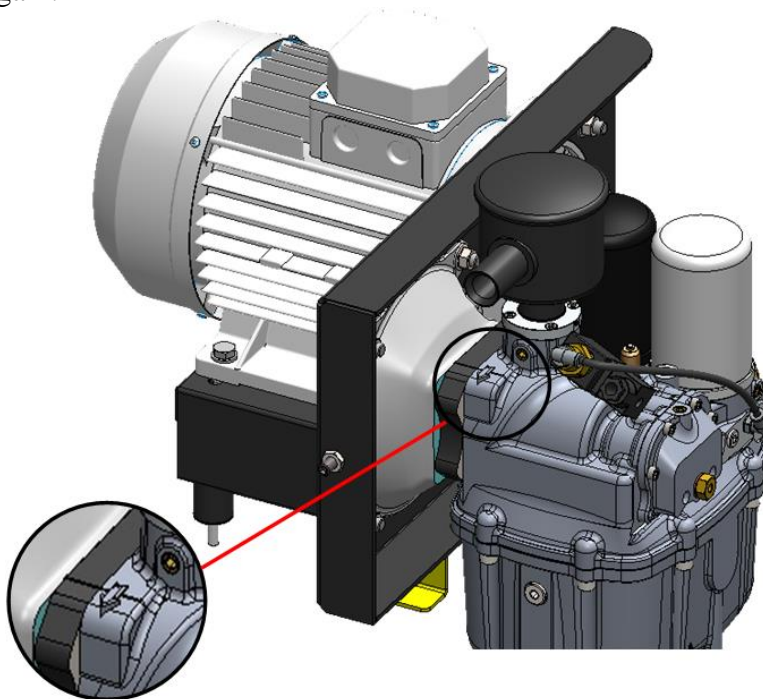

Figure 8
- If the power supply line phases have been correctly positioned, the screw will turn as indicated by the arrow in **figure 8**.
Reverse screw rotation turning opposite the direction indicated by the arrow in relief on the body of the machine (see figure 8) can damage the screw assembly!